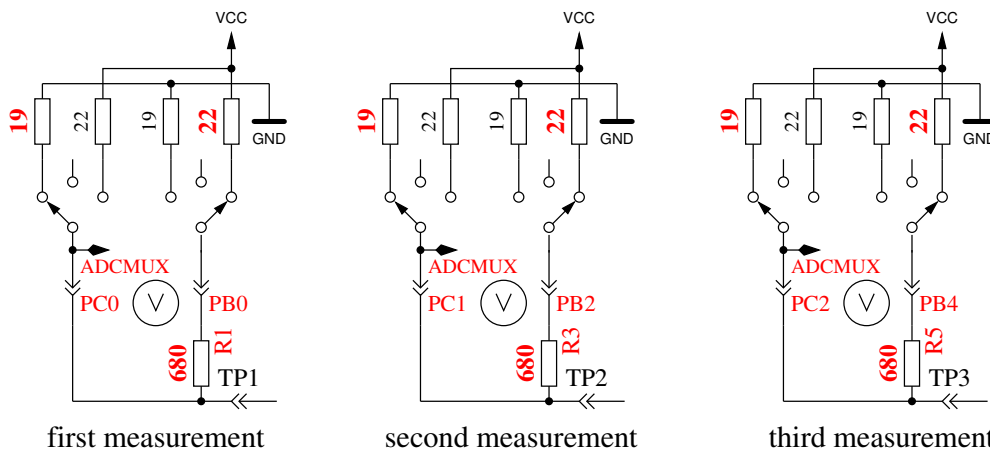

Figure 5.43: Measurement of internal resistance of Port C switched to GND
5. **This step tests the capability of GND (-) connected 470kΩ resistors (H) to pull the test pins to GND.** Row 1 shows the text “RH-”. Row 2 should display zero for all three pins.
6. **This step tests the capability of VCC (+) connected 470kΩ resistors (H) to pull the test pins to VCC (+).** Row 1 shows the text “RH+”. The results are shown als difference to VCC and should be near zero. Great differences from the best value for test 5 and 6 are errors such as isolation problem, flux material or damaged port.
7. **Measuring of internal resistance of pin output switched to the GND signal.** This test and the follwing tests will only be done, if the option AUTO_CAL is selected. The internal resistance of the port C outputs switched to GND (-) are measured with the current of to VCC (+) switched 680Ω resistors, see Figure 5.43. Only the three pins of the ADC port are measured, the resistor port B (PB0,PB2 and PB4) can not be measured without hardware modification. Is is assumed that the port resistance of the different ports are nearly identical. The resistor value will be shown in the next test.